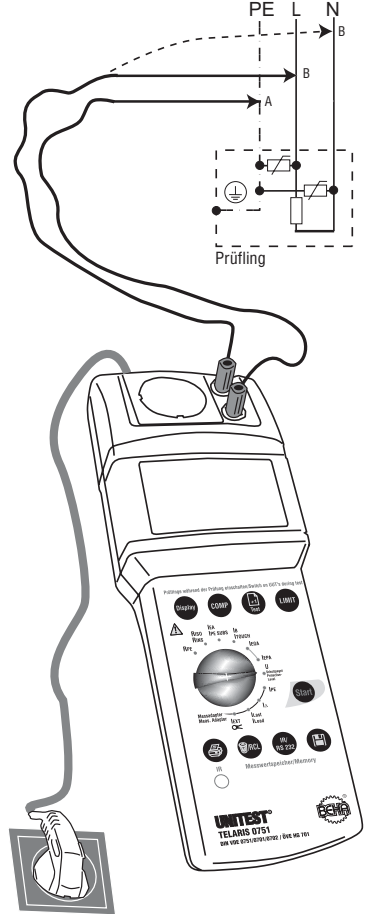

Figure 6.13: Measuring the protection level for UUTs with overvoltage protection devices L towards PE or N towards PE
- ▶ When dealing with UUTs with the overvoltage protection devices between L towards PE or N towards PE, connect the blue socket (5) with the PE and the red socket (4) to L or N of the UUT, please refer to Figure 6.13.
- ▶ Press the key "Start" (9). The unit symbol which is blinking on the display is an indication for the active measurement procedure.
- ▶ Read the measurement value from the LC display (6). The appliance displays the DC voltage value of the response voltage.
-  The key "Display" (17) is used to display the AC voltage value during the active measurement.
-  The measurement results can be saved by pressing the key "Store" (10). For references regarding the saving of measurement values, please refer to section 7.1 and 7.2.